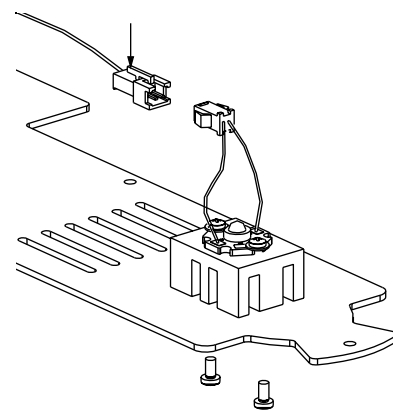

Figure 2.
- a. The LED light set should not need replacing often. If they need replacing remove the bottom panel from the microscope, then remove the battery module to access the LED panel. Press on snaps on the connector socket and disconnect the LED. Remove the two screws holding the LED panel in place and replace with a new LED panel (see Figure 2).